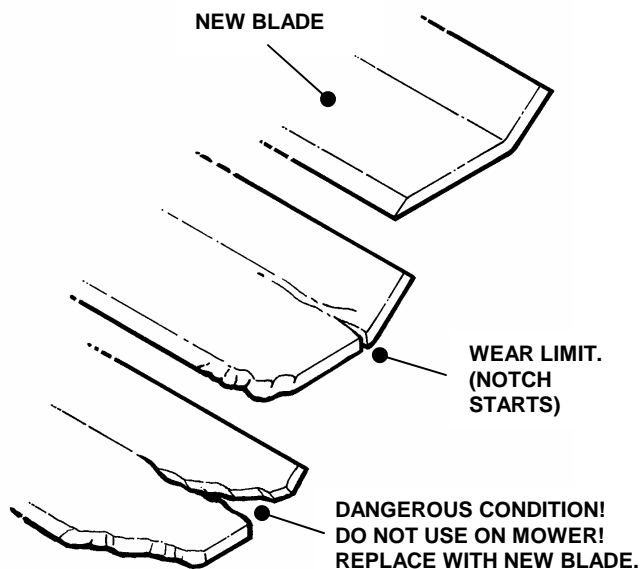

FIGURE 4.9
1. Inspect blade frequently for signs of excessive wear or damage. See Figure 4.9.
5. Inspect condition of blade. See Figure 4.9.